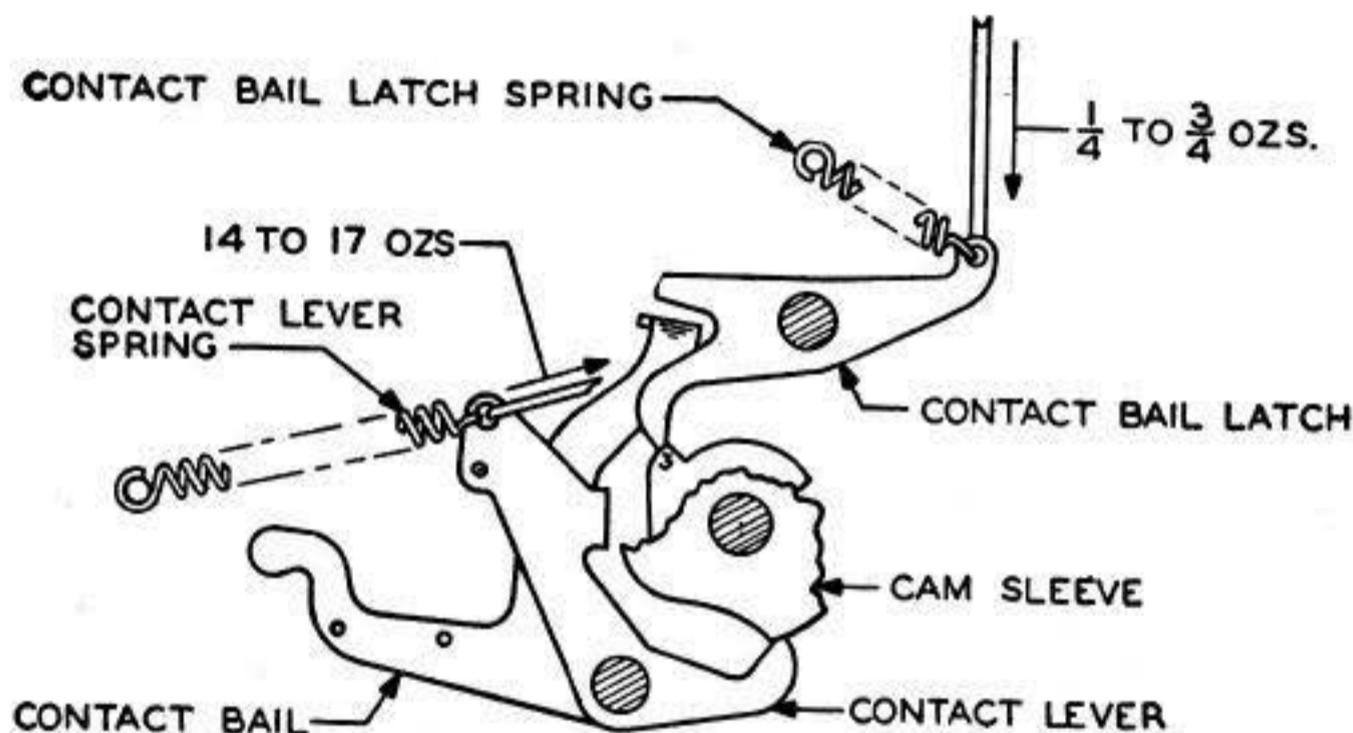

Fig 34
4.05 **Contact-Bail-Latch Spring:** It should require Min $\frac{1}{4}$ oz, Max $\frac{3}{4}$ oz, to just start the latch moving. **Fig 34**